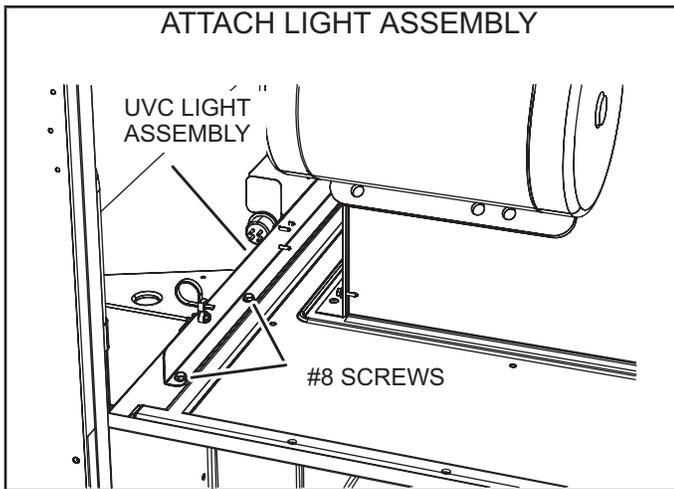

FIGURE 38
- 8 - Carefully place the UVC assembly on the blower deck. Line up the mounting holes on the UVC assembly with the mounting holes on the blower deck. See FIGURE 38. Use the #10 screws provided to attach the UVC assembly in place.